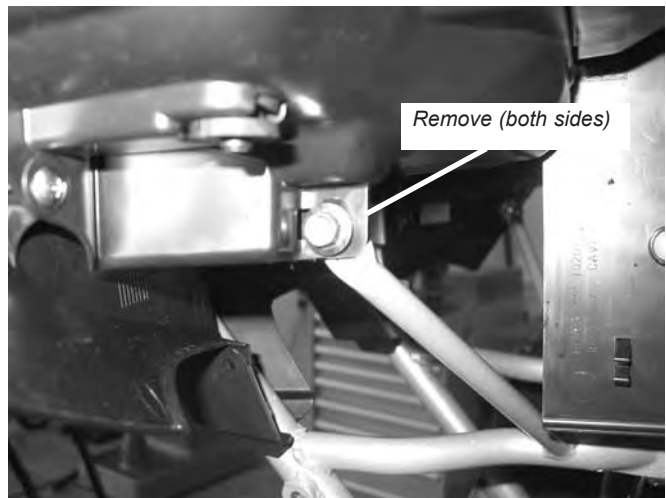

Figure 4 Front Bumper Bolts
4. Remove the two 6mm bolts that attach the front bumper to the plastic headlight assembly, figure 4. Save the fasteners as they will be used to reinstall the front bumper.